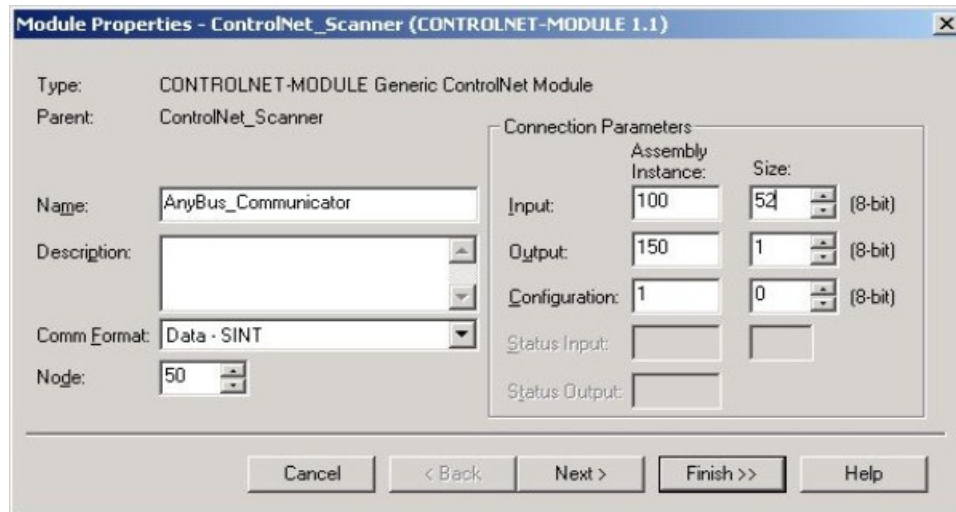

Figure 2
5. Next step is to designate the size of the Input and Output blocks in terms of the selected data format. For the Inputs, two 16-bit registers are set aside automatically for the Run/Idle header and if Status and Control Registers are enabled on the Communicator then one 16-bit register is set aside for status (see AnyBus Communicator Manual for information regarding Control/Status Register option). The remainder of the Input size is dependent on the number of registers or bytes being read on the serial link. For the Outputs, if Status and Control Registers are enabled then the size of the Output table is one 16-bit Control Register plus the number of registers or bytes being written on the serial link. Figure 2 gives a sample configuration where there is no enabling of the Status/Control Registers and 52 bytes of data are read and one byte of data is written.